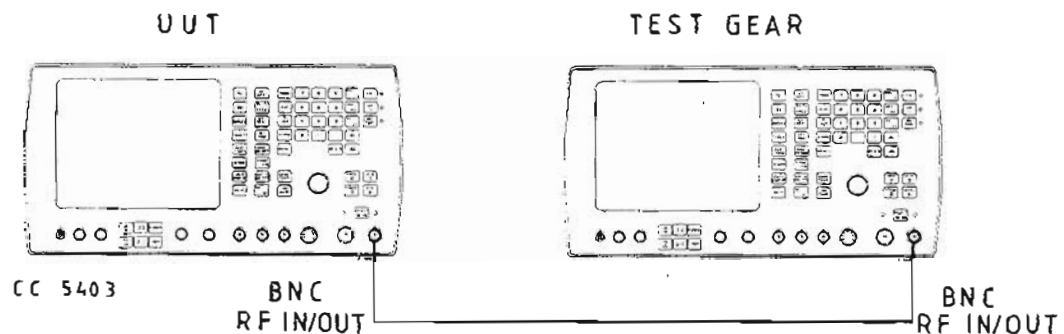

Fig. 19 Test equipment connections for Selcall tones performance checks
- (1) Connect the equipment as shown in Fig. 19.